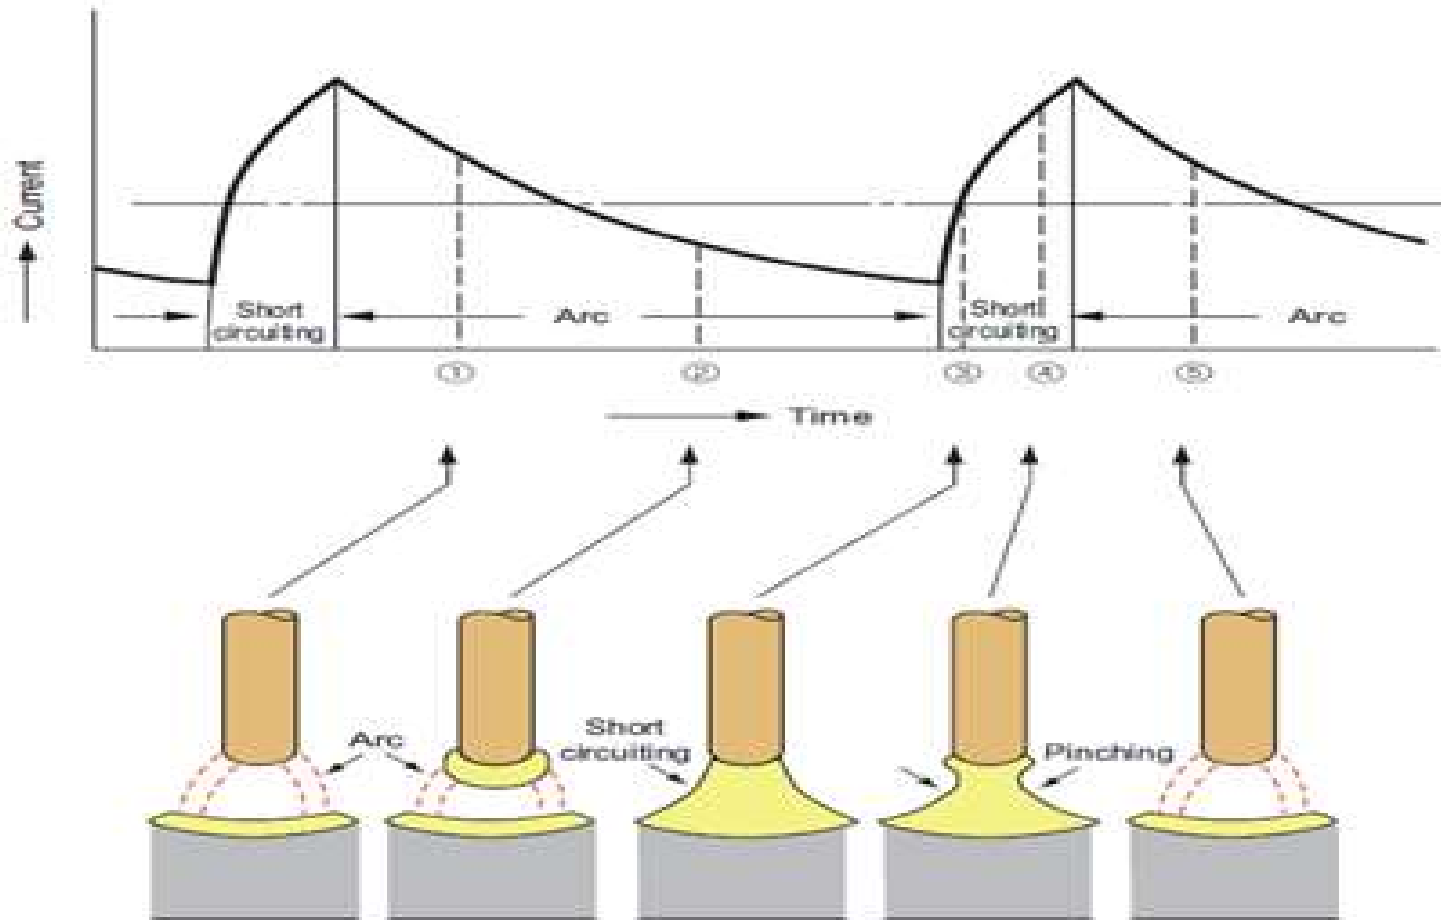

Fig. 5 Short-circuiting transfer vs. welding current.
- When a comparatively low welding current (200A or lower) is used in CO₂ (MAG) arc welding, the droplet transfers to the base metal after short circuiting with it, as shown in Fig. 5.